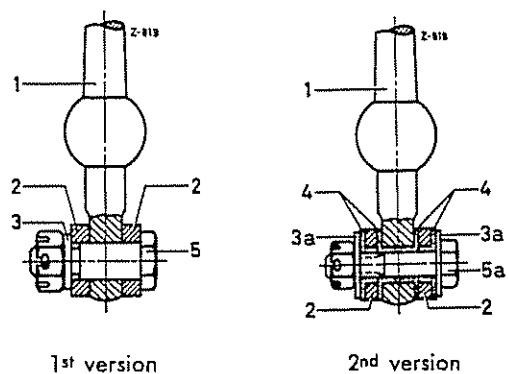

Fig. 26-6/2
the washers (3a), the bushings (4) and the shift tube (2) after unscrewing the castle nut and removing the hexagon screw (5a) (Fig. 26-6/2).
6. Unscrew the shift lever knob and pull off the sleeve (2) and the cover plate (3) (Fig. 26-6/3).